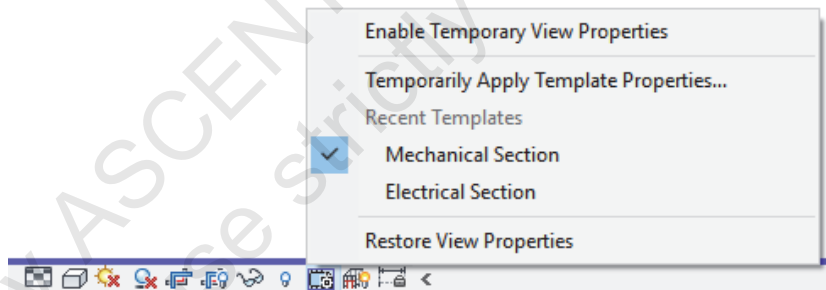

Figure 1–145
2. Expand  (Temporary View Properties) again and select **Temporarily Apply Template Properties**. Alternatively, if you have already used the process, you can select from a list of view templates, as shown in Figure 1–145.